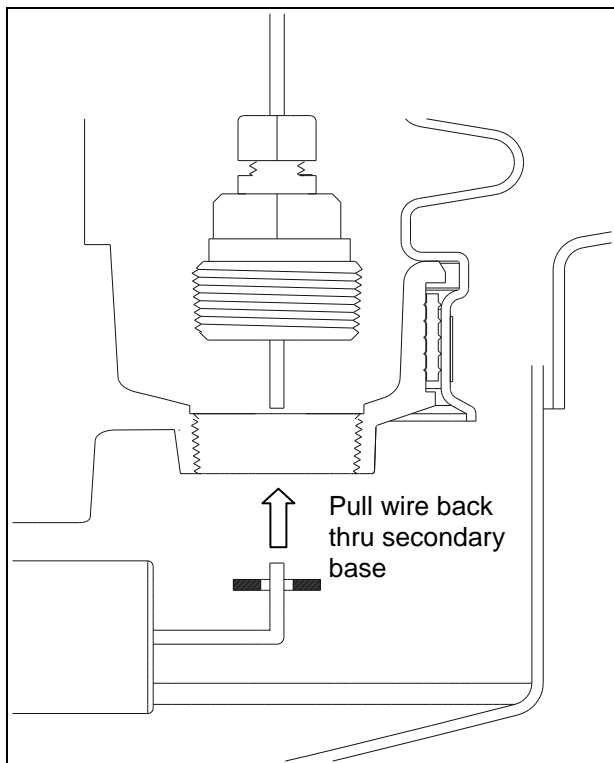

Figure 1-3132 #1
Step 1-3132 #8: (See Figure 1-3132 #2)